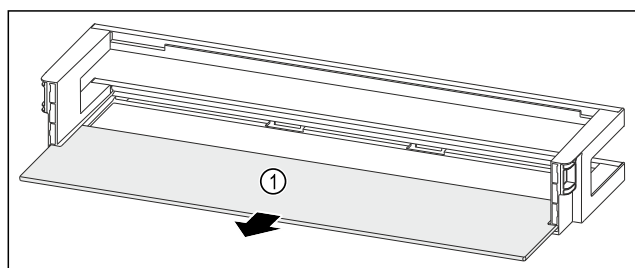

Fig. 237 Door rack with shelf
- ▶ Remove the shelf Fig. 237 (1).